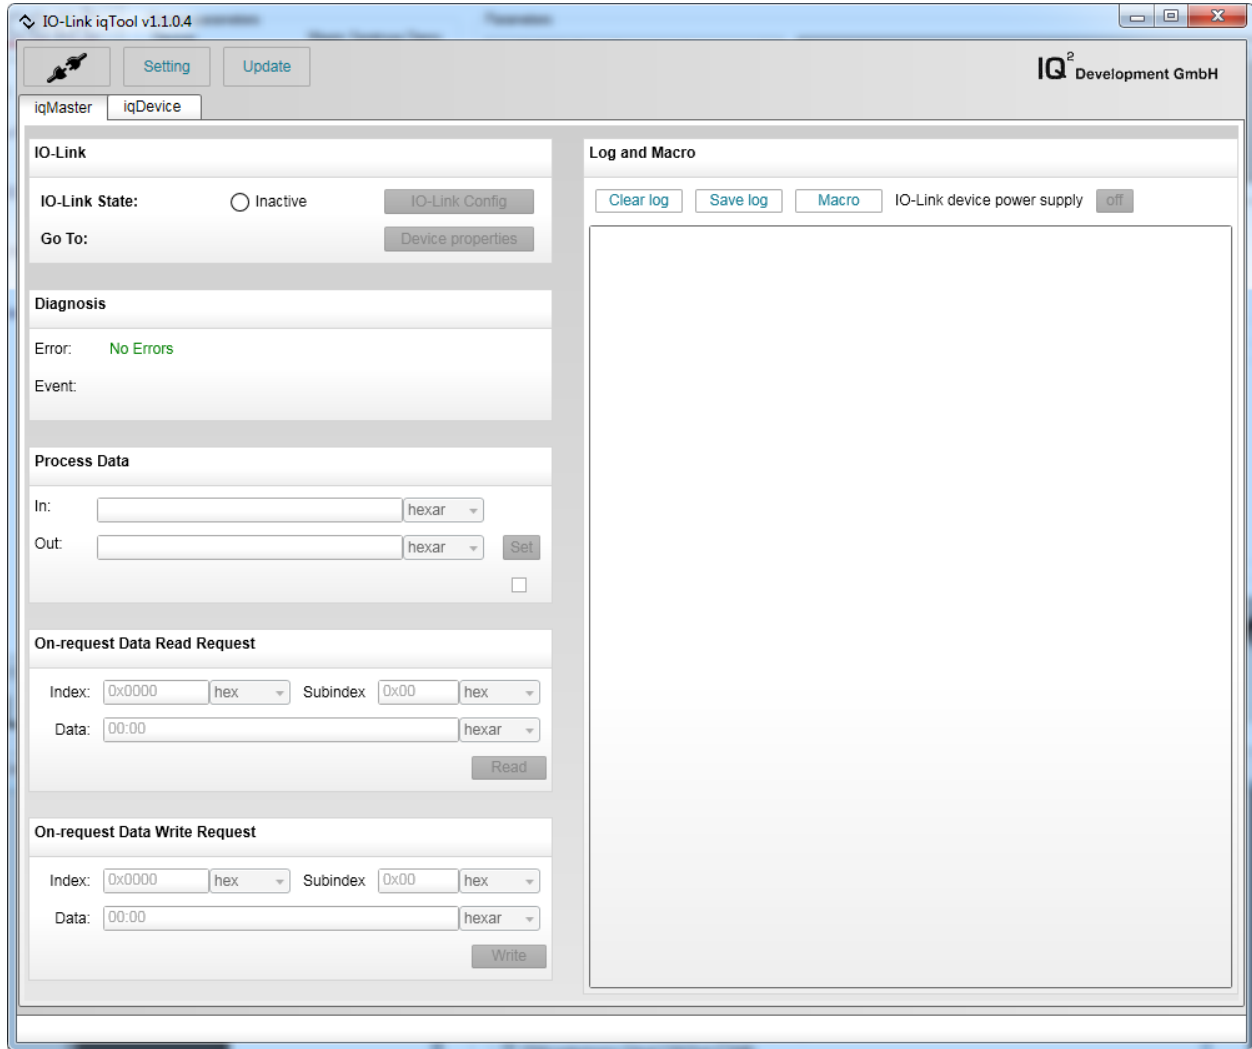

Figure 7. Newly installed IQ² Development IO-Link iqTool.
7. Install the IQ² Development IO-Link iqTool onto your Windows PC as shown in Figure 7 by referring to IQ² Development's iqInterface User Manual located at <http://www.iq2-development.com/downloads/>.